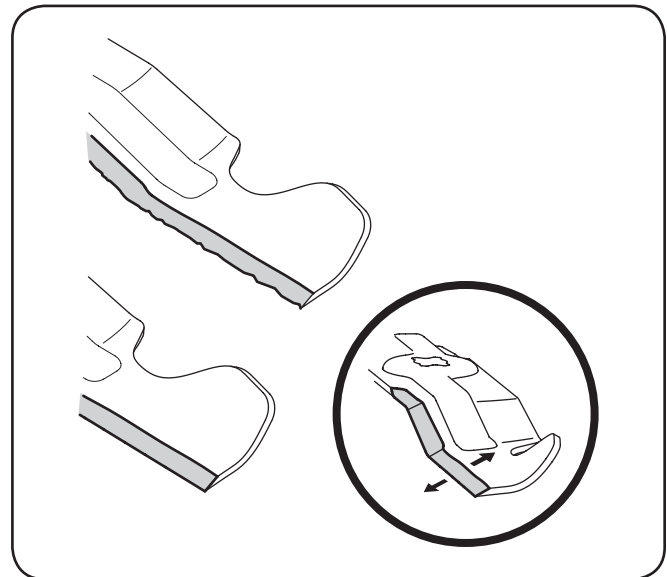

Figure 7-8
4. To properly sharpen the cutting blades, remove equal amounts of metal from both ends of the blades along the cutting edges, parallel to the trailing edge, at a 25°- to 30° angle. Always grind each cutting blade edge equally to maintain proper blade balance. See Fig. 7-8.